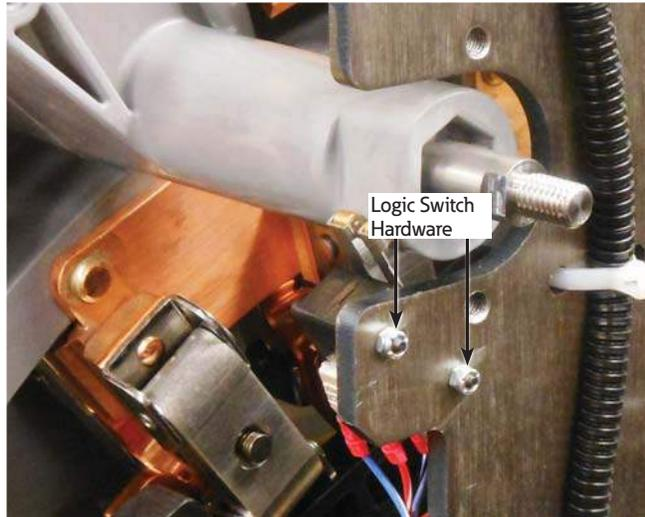
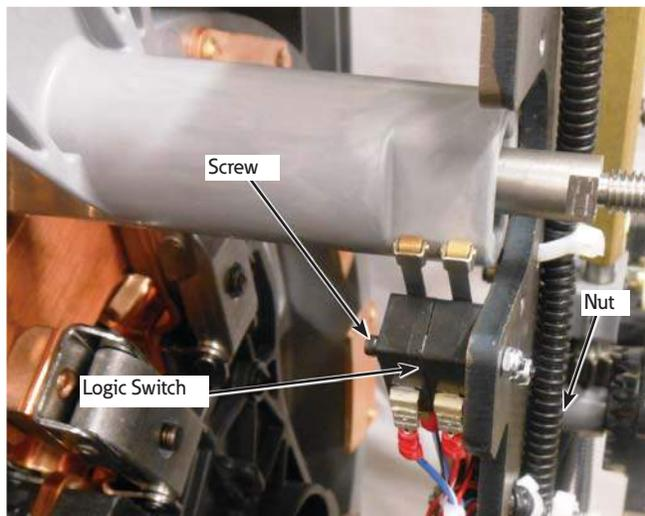

Figure 32. Reversing logic hardware
Figure 33. Removal of logic switch
- Use a 3/32" Allen wrench and a 1/4" socket wrench to loosen and remove the self-locking nuts and logic switch mounting screws. See Figure 32 and Figure 33.